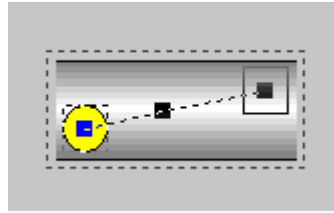

Figure 5.17. Location Dynamic Start/End Limits
5. Note that the circle has a set of dotted-rectangles around it. Click on the circle, and drag it to the bottom of the tank, as shown in **Figure 5.17**. The actual circle remains where it was originally drawn at the end of the pipe. What actually moves when you drag it is the end point definition for the location dynamic. A dotted line then connects the start and end locations.